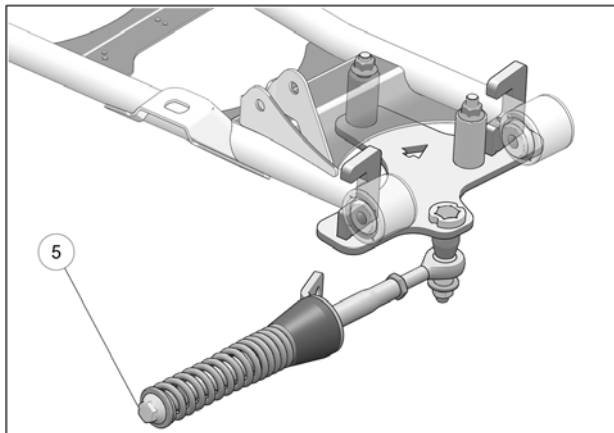

Fig. 8
- Verify that spring assembly bolt (6) is tightened to the recommended torque specification: 75 N•m [55 lb•ft]. Refer to Fig. 8